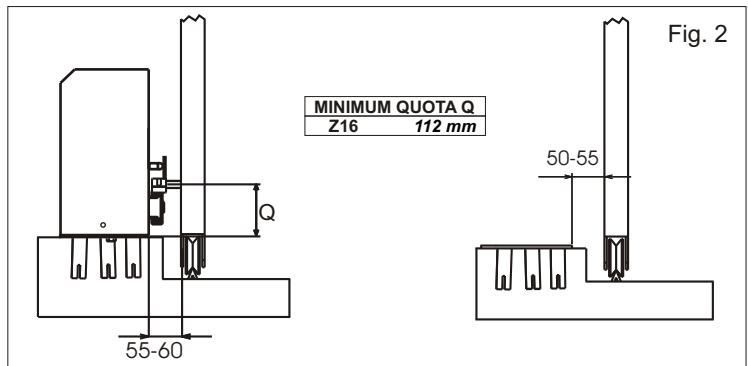

Fig. 2
- When concreting in the plate check that the plate is perfectly levelled and that the measurement of 50 - 55 mm given in Fig. 2 is followed.
- Adjust the motor reducer height using the four supplied grains (Fig. 3) respecting the quotes mentioned in Fig. 2. The adjusting grains can be used to correct a previous and imperfect levelling of the foundation plate.